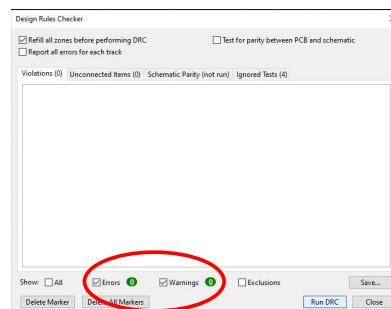

Figure 58: A clean design rule check (from a different PCB design).
10. When you think you are done, run a design rule check. This is accessible under the top menu, "Inspect - Design Rules Checker". Running the check should turn up no errors. If it does, you need to fix the errors in order for your PCB to be complete, for sending out the design files for fabrication. Figure 58 shows the DRC dialog, with a zero-error result returned.